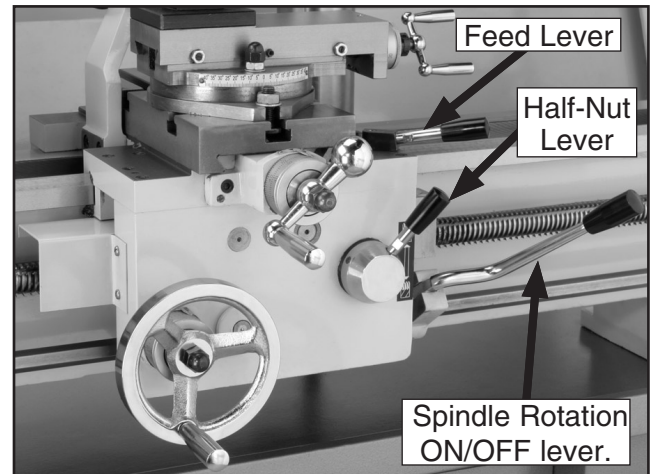

Figure 8. Apron control levers.
Note: The Spindle Rotation ON/OFF Lever (Figure 8) on the apron starts the spindle motor in a particular direction.
5. Move the half-nut lever upward to disengage the apron, and move the feed lever to the neutral or central position (see **Figure 8**).
6. Move the spindle rotation ON/OFF lever to its central position (**OFF**) as shown in **Figure 8**, and connect the lathe to power so the green lamp is lit.